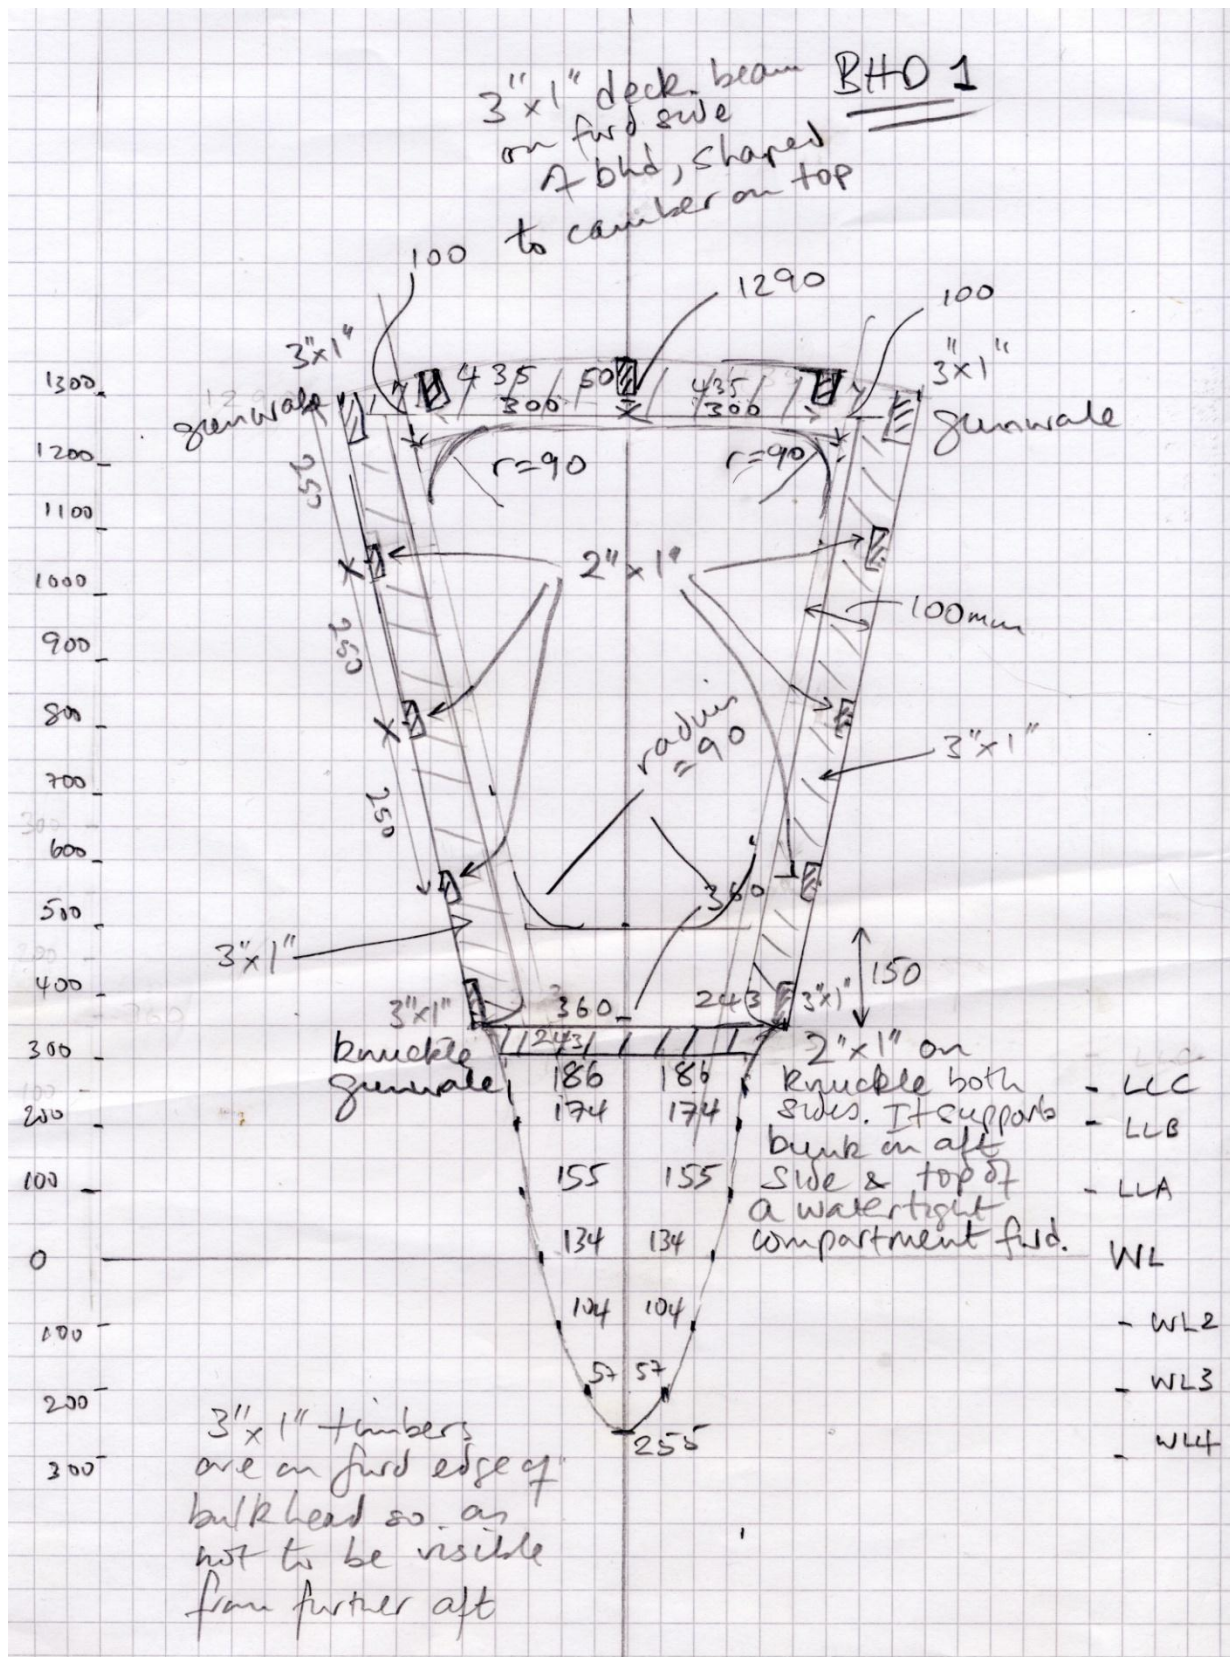

Figure 8: Bulkhead 1 Details
- Figure 8: Bulkhead 1 Details.